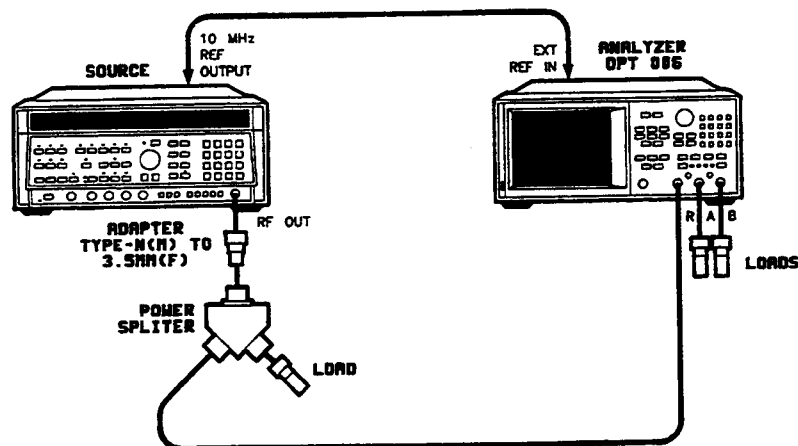

Figure 32. HP 8753B/C, HP 8702B Option 006 R-into-A and R-into-B Input Crosstalk Test Setup
1. Connect the equipment as shown in Figure 32. On the HP 8341B, press **[POWER LEVEL] [6] [GHz dB(m)]**.